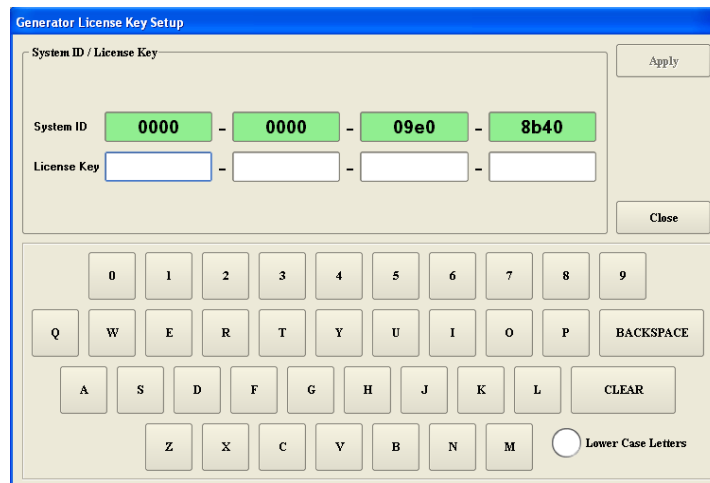

Figure 3-21: Generator License Key Setup window
2. Select the  button from the toolbar on the top of the screen. This will open the **Generator License Key Setup** window. Refer to Figure 3-21.